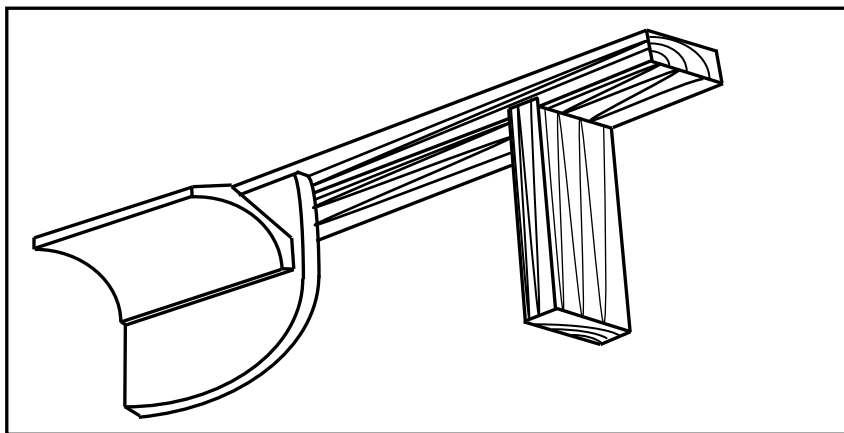

FIGURE 2.5
- 2.5 FIGURE 2.5 below shows an isometric view of a construction at the top of a dry-wall construction. Do NOT redraw the sketch. Use it as a hint to answer QUESTION 2.5.1.